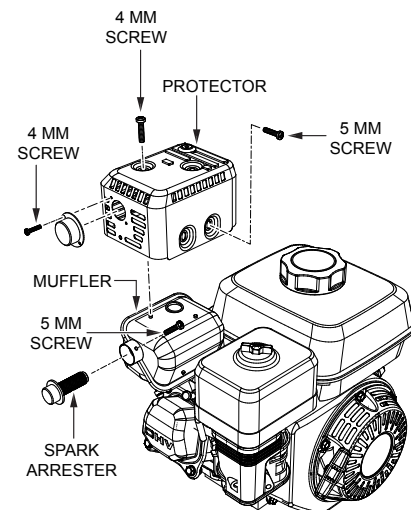

Figure 32. Spark Arrester Removal
1. Remove the 4 mm screws (3) from the exhaust deflector, then remove the deflector (Figure 32).
2. Remove the 5 mm screws (4) from the muffler protector, then remove the muffler protector.